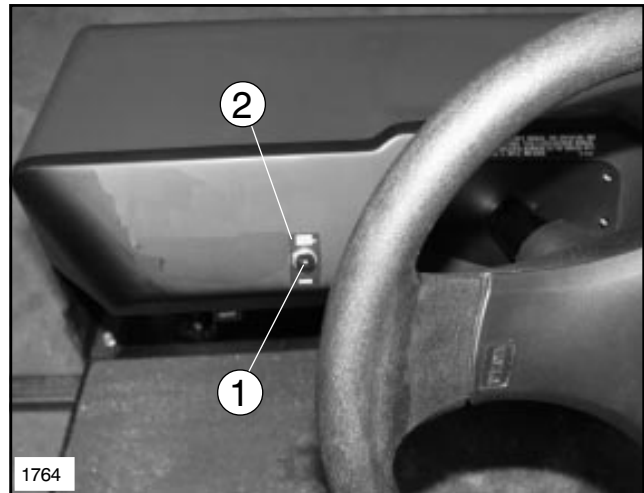

FIG. 2
6. Remove Hole Plug and install Sonic Boom™ Decal and Indicator Light on Dash, and connect Harness Leads to Light. See FIG. 2.